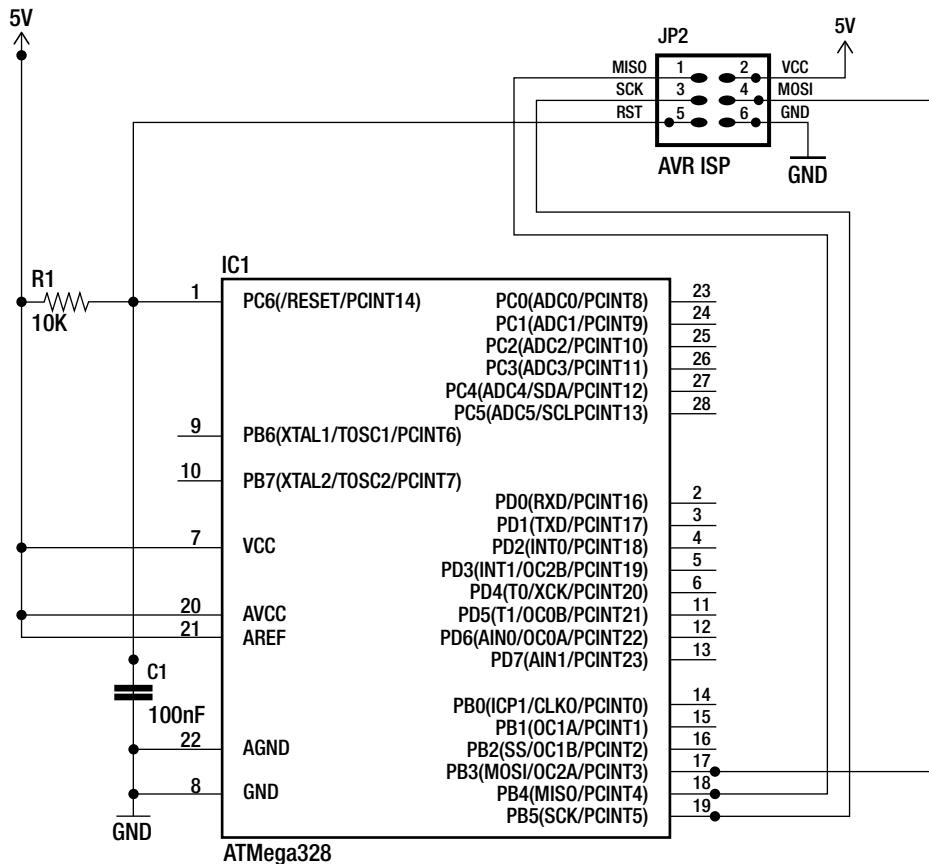

Figure 2-27. Test bed: permanent connections to AVR breakout
7. Finally, you need to connect the breakout board to the microcontroller chip using some breadboard jumpers that you will leave always connected. The jumpers need to implement the connections shown back in Figure 2-9. As you can see, the idea is to wire the ISP signals to the chip pins which have the same names. That's what we do in the next diagram—Figure 2-27.
Figure 2-27 uses the AVR's native pin names, not their Arduino names: we'll investigate the difference between native and Arduino pin names in the next chapter. Notice that we need R1 and C1 to ensure that the reset is properly asserted at power on.
Figure 2-27 shows a photo of the completed breadboard setup: from the breakout board, permanent jumper wires connect to the AVR chip. These permanent jumper wires are cut to size and striped using a Sharpie pen. This is intended to make it easy to differentiate them from the temporary per-project wires we shall attach. The resistor and capacitor permanently connected to pin 1 of the chip form the reset circuit.